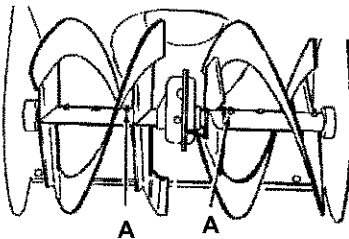

Figure 27
1. Lubricate the **Zerk fittings (A)** every ten hours with a grease gun.
2. Each time a shear bolt is replaced, the auger shaft **MUST** be greased. See Figure 27. See **To Replace Auger Shear Bolt** in the Service and Adjustment section.